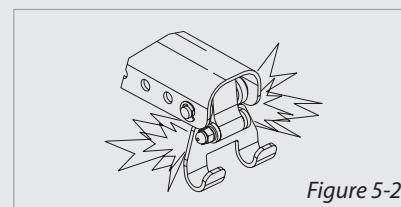

Figure 5-2
- Stop lifting before the strap hook contacts the strap roller or frame. Contact will damage the lift. [Figure 5-2] A properly adjusted lift will avoid contact.